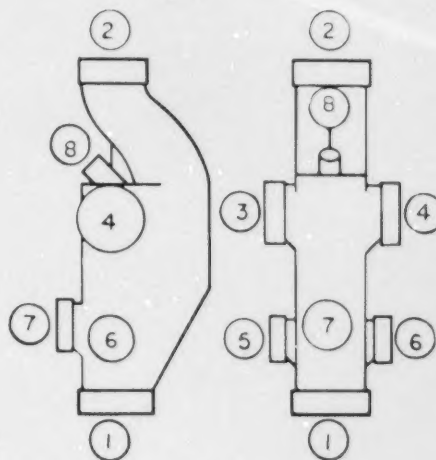

Figure 37-2. Sovent Aerator
11. The Sovent aerator (Figure 37-2) comprises an offset; a mixing chamber; one or two soil inlets; one, two, or three waste inlets; and one or more baffles.
13. In North America, aerators are regulated by Standard B16.32 of the American National Standards Institute. They are designated by the size of openings in the sequence as shown in Figure 37-2.
14. The numbers may be remembered by turning face-inlet 7 toward you and numbering from left to right, taking the upper ones first. Inlet 8 is a pressure-equalizing line (PEL) connection, which is seldom needed. The basic dimensions of common sizes of aerators are shown in Table 37-1. The position of waste inlets 5, 6, and 7 should be taken into account where waste branches cross within drop ceilings. The bracketed numbers in Table 37-1 correspond to those circled in Figure 37-2.